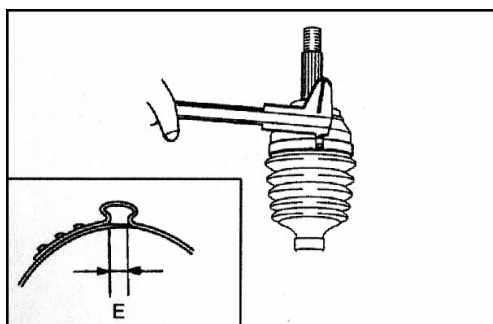

Fig.12-40
15. Check that the crimping amount (E) of the R.J. boot band is at the standard value (see Fig.12-40).